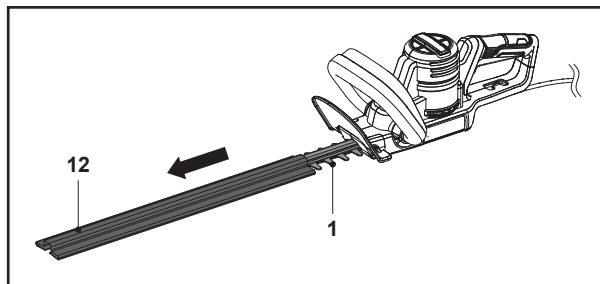

Fig. 1
1. Remove the blade cover (12) from the cutting device (blade) (1) before operation (Fig. 1).
2. Keep the blade cover (12) safely.